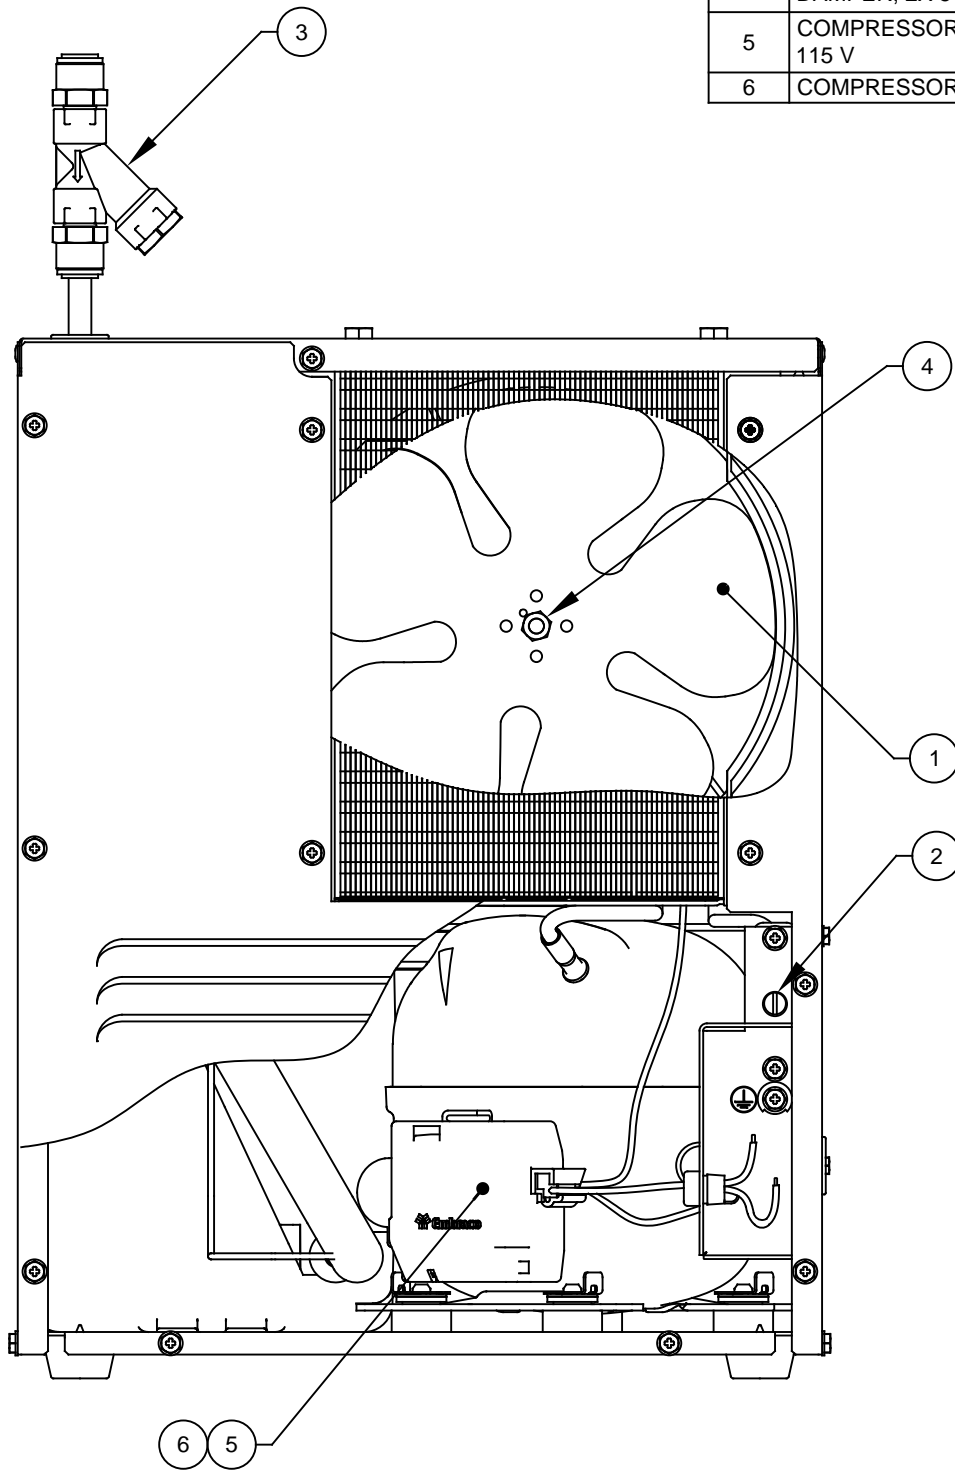

FIG. 1
**STEP 5: Temperature Control-** Factory set at 50°F (±5°) under normal conditions. For colder water, adjust screw on the thermostat (Fig. 1, Item 2) in clockwise direction.